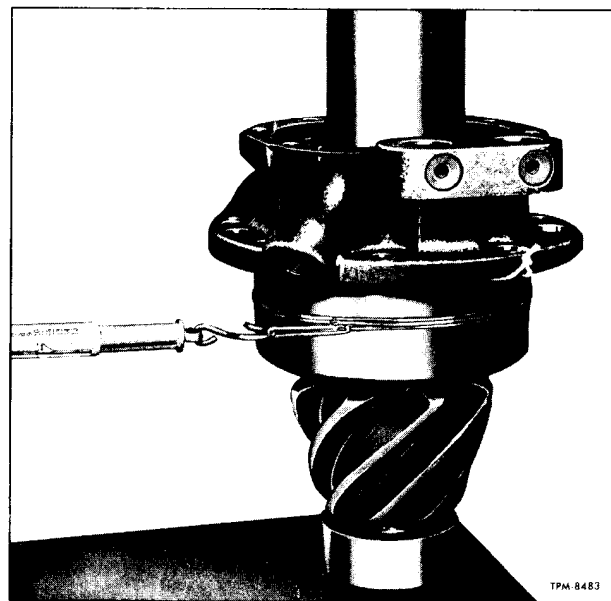

Figure 8—Checking Pinion Bearing Preload
2. Position pinion bearing (35) on drive pinion (36), with widest part of bearing cone toward gear teeth, then press bearing on pinion until bearing cone is seated solidly on drive pinion.
3. Install drive pinion inner bearing (37) on drive pinion (36), using arbor press. Install retainer ring (38) to retain bearing.
4. Lubricate pinion bearing cones and cups. Install original pinion bearing adjusting spacer (33) on drive pinion.
5. Insert drive pinion (36) and bearing assembly into pinion cage (30); then using an arbor press, press outer pinion bearing (31) firmly against bearing spacer (33). Rotate bearing cage through several complete revolutions to assure normal bearing contact.
6. While assembly is still in press under pressure (14-ton), check drive pinion bearing preload. Wrap soft wire around pinion bearing cage (30) as shown in figure 8. Attach pound scale to wire, then pull on scale, keeping scale in a horizontal plane. Note scale reading when assembly is rotating freely. Reading should be from 5 to 15 inch-pounds. To compute inch-pound value of scale reading, multiply scale reading (pounds) by one-half pinion cage diameter (inches). If reading does not fall between limits given, use thinner spacer (33) to increase or thicker spacer to decrease pinion bearing preload. Spacer thicknesses available are given in "Specifications" at end of this section.